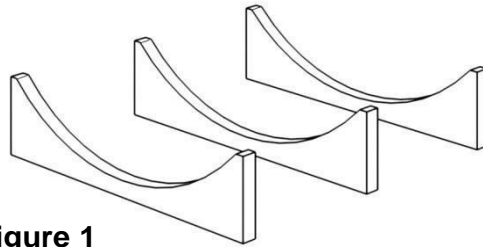
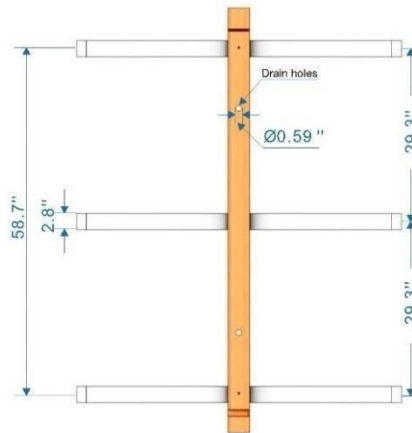

figure 1
figure 1a
Place the bottom support cradles at their desired locations. See figure 1. Determine where the front and rear cradles will be positioned. The Karlstad model will have (3) support cradles. See figure 1a. The end support cradles will have a sticker indicating where the first stave will screw to the cradle. To avoid damaging your floor, it is not recommended to move the sauna once it is assembled. If the unit is moved, please do so carefully and cautiously.